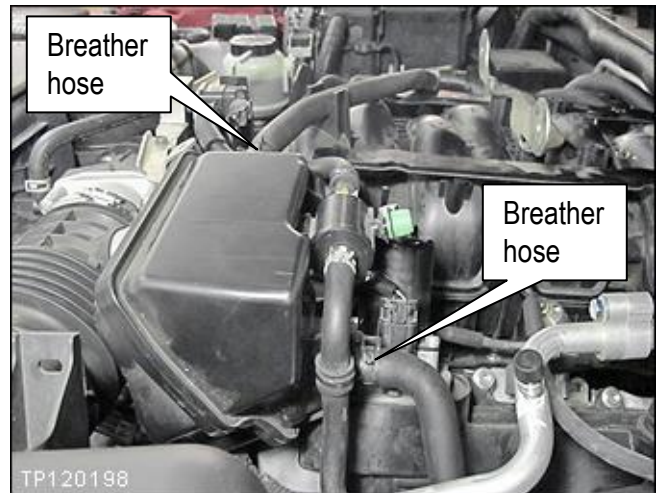

Figure 2
6. Disconnect the 2 breather hoses at the points shown in Figure 2.